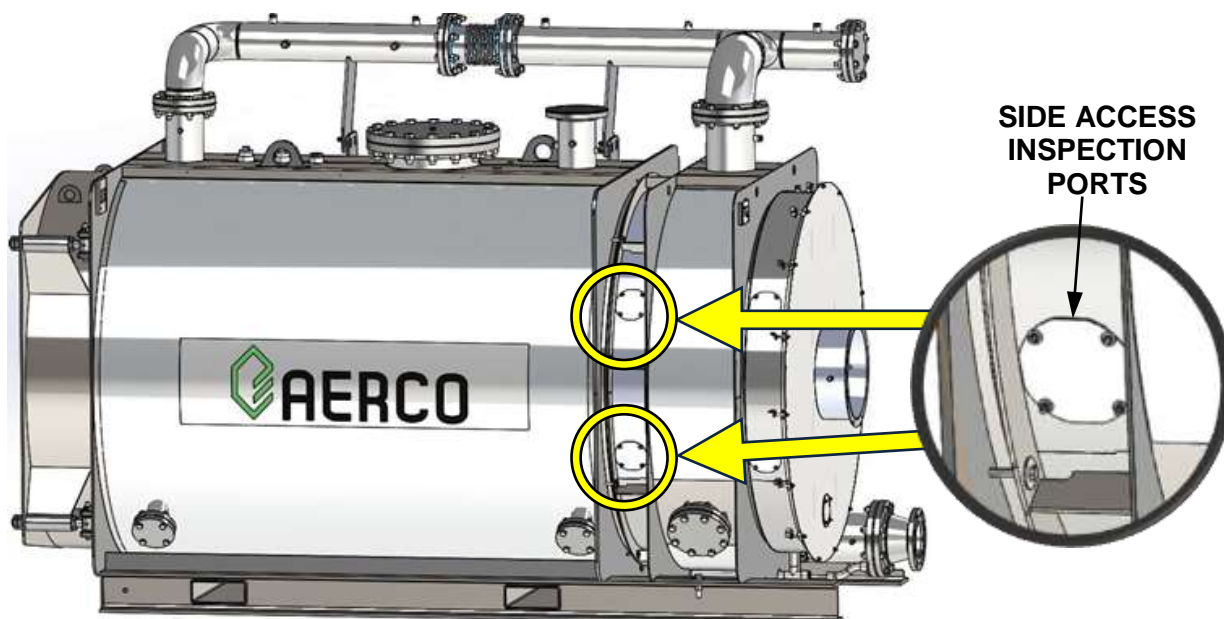

Figure 5-2: Location of Side Access Inspection Ports (Two Each Side)
1. Utilize the first set of access ports on either side of the 4th pass for access per Figure 5-2.